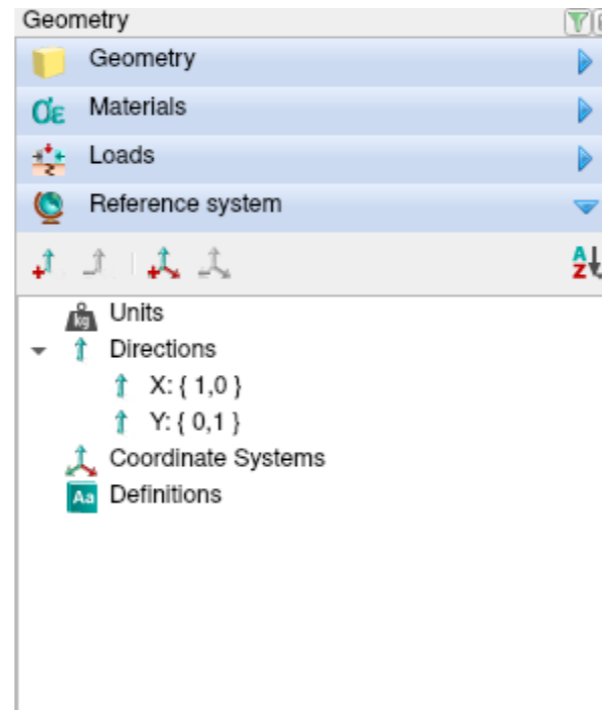

Figure 4: Geometry browser - units
**Geometry browser** → Reference system → Units [Fig. 4]